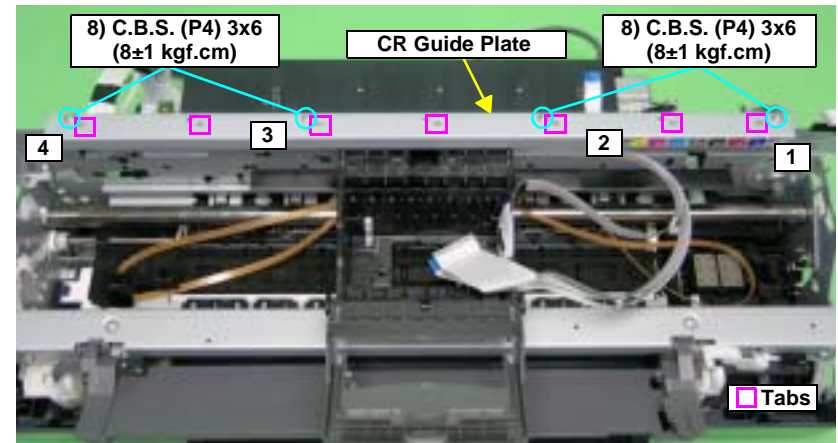

Figure 4-58. Removing the CR Guide Plate
- Align the positioning holes on the CR Guide Plate with the seven Tabs on the Main Frame. See Figure 4-58.
- Tighten the screws in the order shown in Figure 4-58.